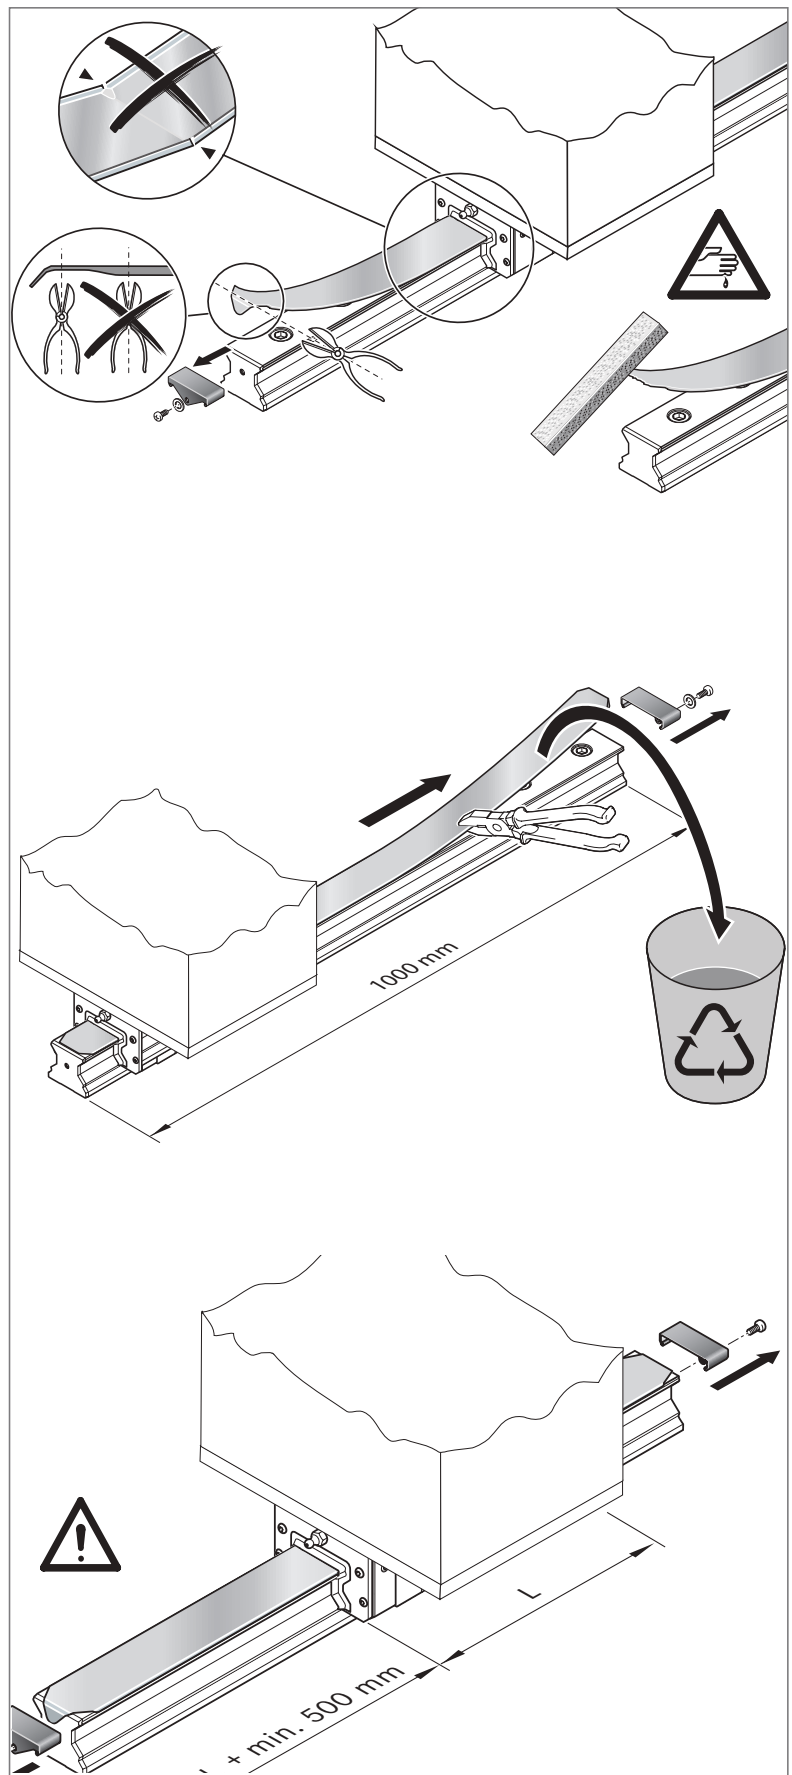

Fig. 41: Removing the snap-fit Rail Seal
- ▶ Cut off the tongue. ➡ Fig. 41